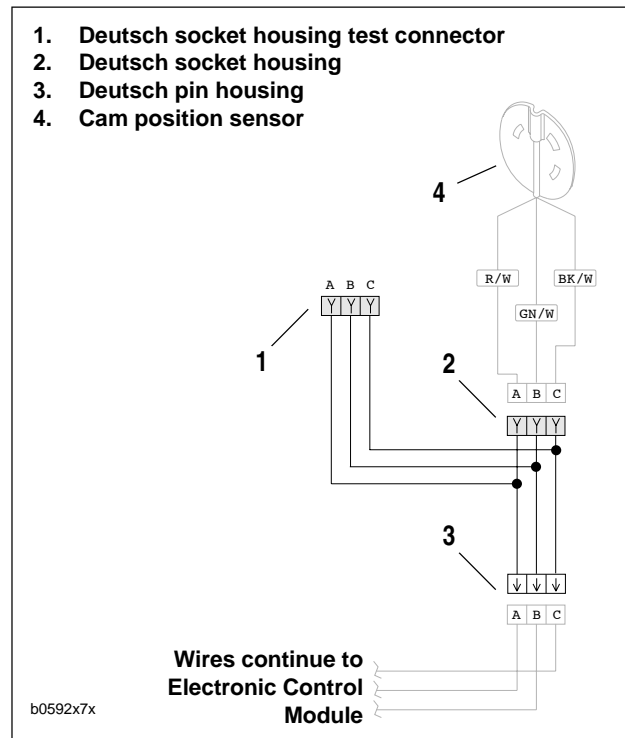

Figure 7-63. Testing Tachometer
2. See Figure 7-63. Connect the speedometer tester to the cam position sensor Deutsch socket housing using test harness. See Speedometer Sensor Test under 7.18 SPEEDOMETER PERFORMANCE CHECK for more information on test harness.
1. See Figure 7-63. Connect the speedometer tester to the cam position sensor Deutsch socket housing using test harness. See Speedometer Sensor Test under 7.18 SPEEDOMETER PERFORMANCE CHECK for more information on test harness.